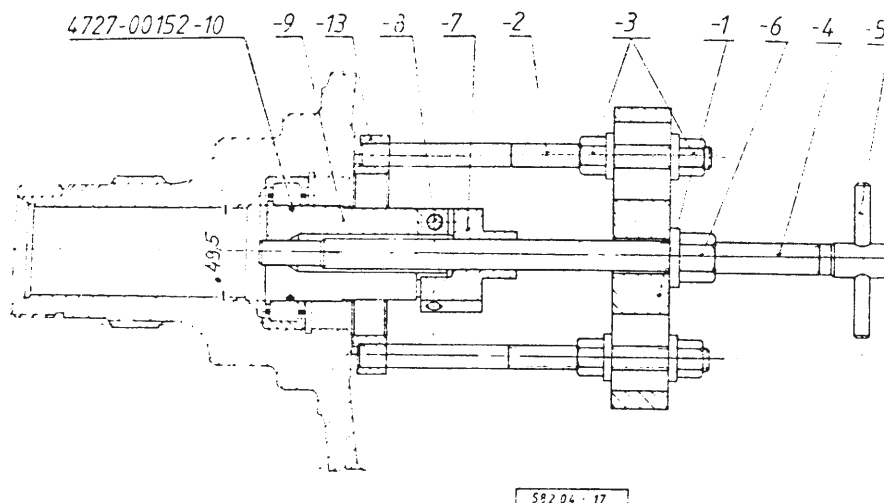

Fig. 1.: PULLING OUT THE CYLINDRIC ROLLER BEARING
Remove the snap ring (92) in front of the cylindric roller bearing (93), then using the puller pull out the bearing (Fig. 1.).